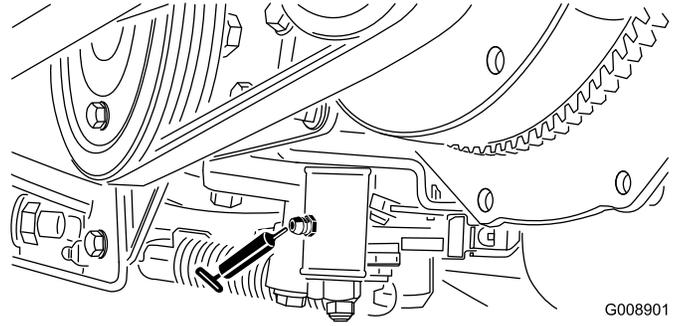

Figure 37
- Neutral adjust mechanism (Figure 37)